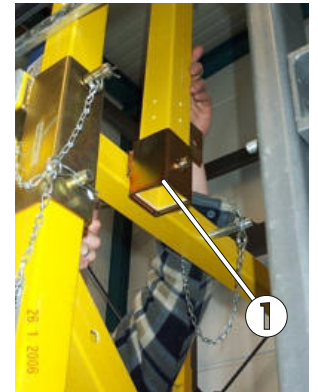

Fig. 84: Positioning the fastening bolt with upper rail stanchion
The fastening bolt is then placed so that the upper rail stanchion can be inserted into the square tube of the receptacle and secured with a long locking pin (fig. 84/pos. 1). The rail stanchion must be placed between the horizontal bar and the side wall of the shaft.